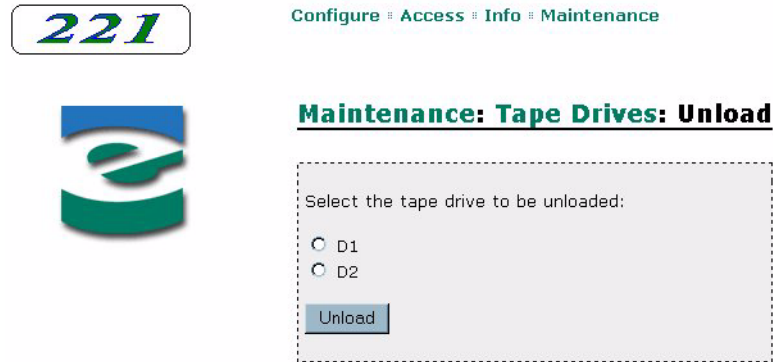

Figure 6-45 Remote management utility – Unload Tape Drive page
- Click on Unload a tape drive. A page similar to Figure 6-45 appears.